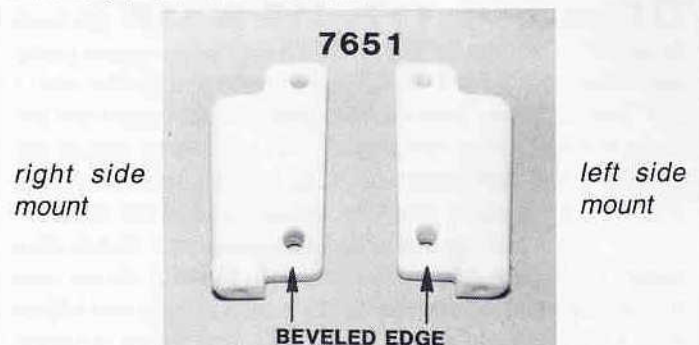

Fig. 123
(2) Now open bag #7-8 and remove the #7651 3 deg. rear suspension mounts, fig. 123, the two #7356 rear inner hinge pins and four #6299 1/8" E-clips. (3) The left and right rear mounts are attached together by a thin "runner" that you will need to remove with your hobby knife.
(4) We will assemble the right side mount and arm first. Take the #7206 right rear suspension arm and slide one of the #7356 inner rear hinge pins through the arm; make sure that the arm can swing freely. (5) Now remove the pin and reinstall it with the mount in between the mounting points on the rear arm. The pin should be tight in the rear mount. *Make sure that you connect the right hand arm to the right hand mount.* (6) Install a #6299 1/8" E-clip on each end of the #7356 hinge pin. Your complete arm and mount assembly will have the beveled edge of the mount pointing forward and the three shock mounting holes towards the rear. The beveled edge gives the spur gear clearance, as shown. (7) Now repeat the same steps for the left arm and mount parts.